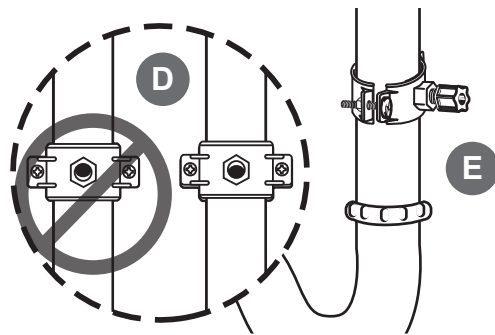

Figure 11
- Make sure the black rubber gasket is adhered to the inside of the drain clamp and place the drain clamp assembly over the drilled hole. Look through the hole and position the clamp so that the center of the clamp hole is slightly higher (about 1/16 inch) than the center of the drilled hole, see Figure 11. Tighten the clamp securely.